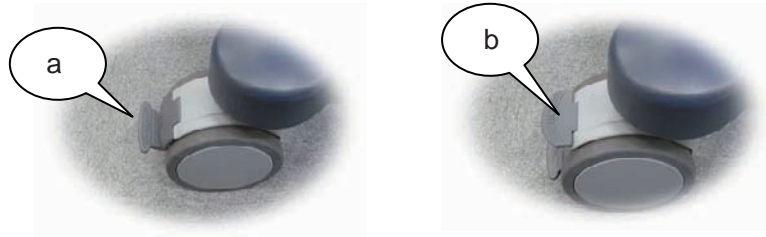

Figure 4-9 Total Lock Casters
- 1.) Press 'a'. (see: Figure 4-9)
- 4.) Press 'b'.(see: Figure 4-9).